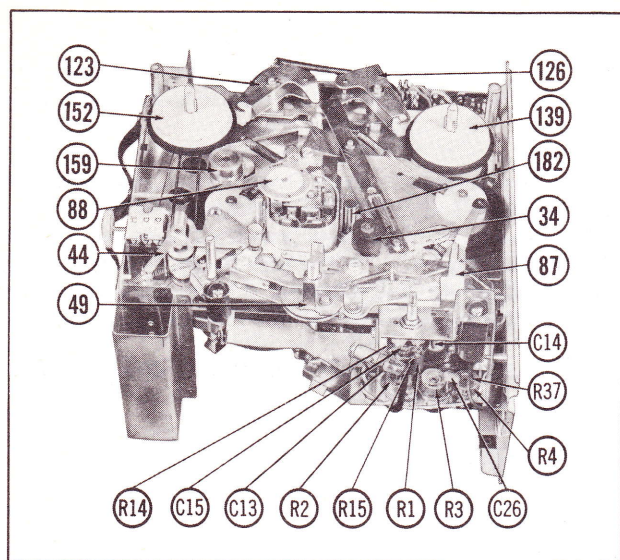

Fig. 9. Top View of Recorder Removed From Case - Plastic Top and Top Plate Assembly (14) Removed.
3. Thread tape on recorder. Brakes (123 and 126, Fig. 9) should be engaged. Pull required on reel should not distort the tape and should offer sufficient
4. Turn Function knob to Play position. Brakes on both spindles should release. Record pressure pad assembly (113, Fig. 14) and erase pressure pad assembly (114, Fig. 14) should press tape squarely against head (s). Pressure roller (34, Fig. 9) should contact capstan and tape should move past the head (s) at the speed selected by the Speed Change knob (Fig. 1). Take-up reel should wind up tape as it passes the capstan (182, Fig. 9). The counter (Fig. 1) should tally each revolution of the supply reel.